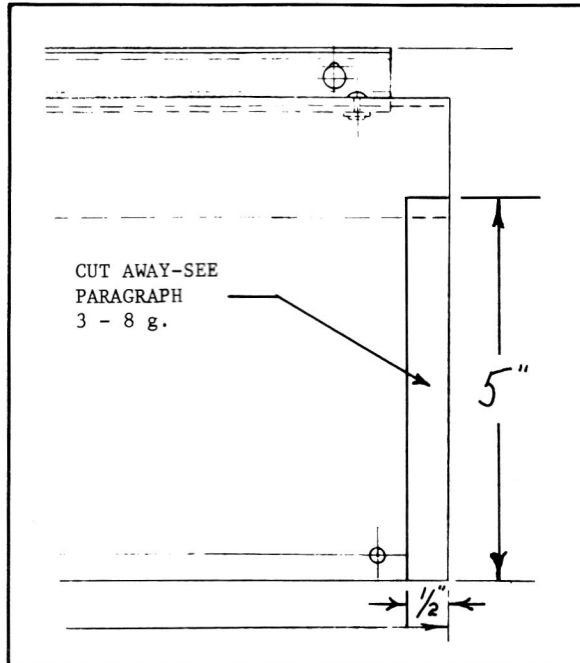

FIGURE 3-5.
- g. Cut away a section 1/2" x 5" from the lower right side (rear view) of the fibre-board generator cover, as shown in Figure 3-5. Reattach generator cover.